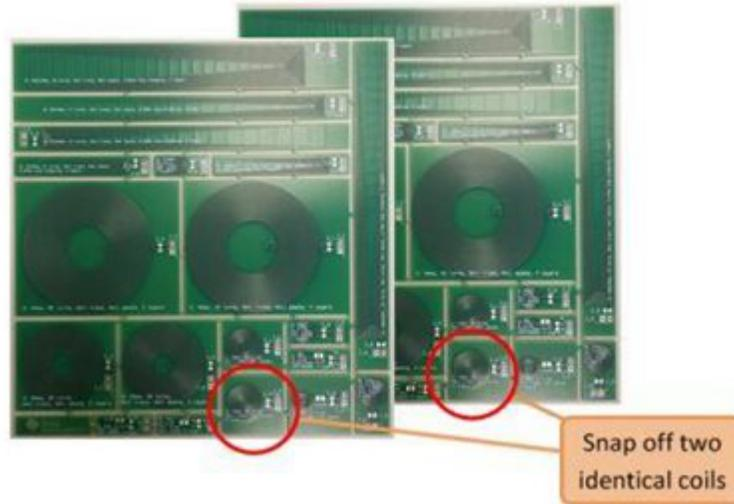

Figure 4. Snap off Two Identical Coils from the LDCCOILEVM
Step 2: Obtain two LDCCOILEVM boards with which to prototype your side-by-side coil arrangement. There are 19 unique coils to choose from depending on your sensing requirements, but for this application, snap off coil M from each board, as shown in Figure 4.